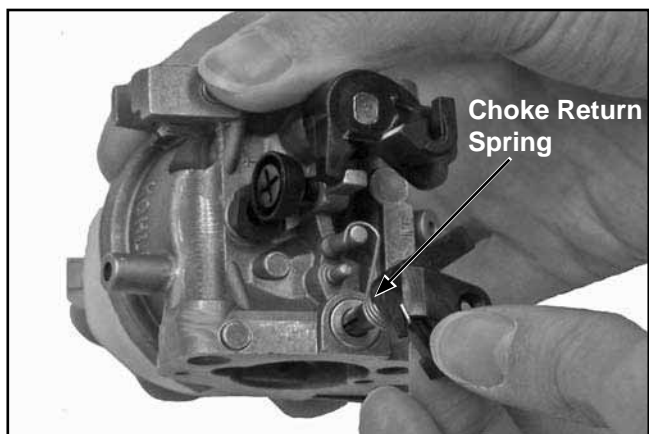

Figure 5-14. Choke Return Spring Removal.
7. Remove the choke shaft and disconnect the choke return spring, noting their positions for accurate reassembly. See Figure 5-14.